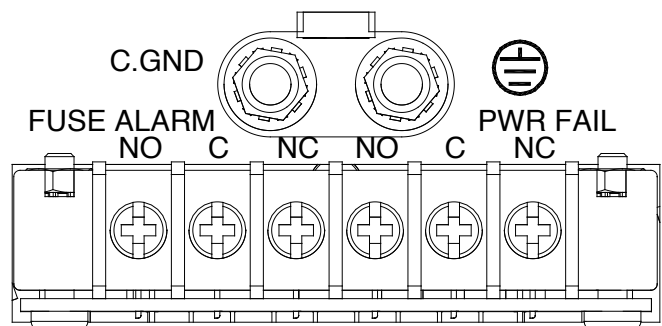

Figure 8 - Alarm Terminals
- Expect continuity (0Ω) between Terminals **C** and **NO**. See Figure 8.